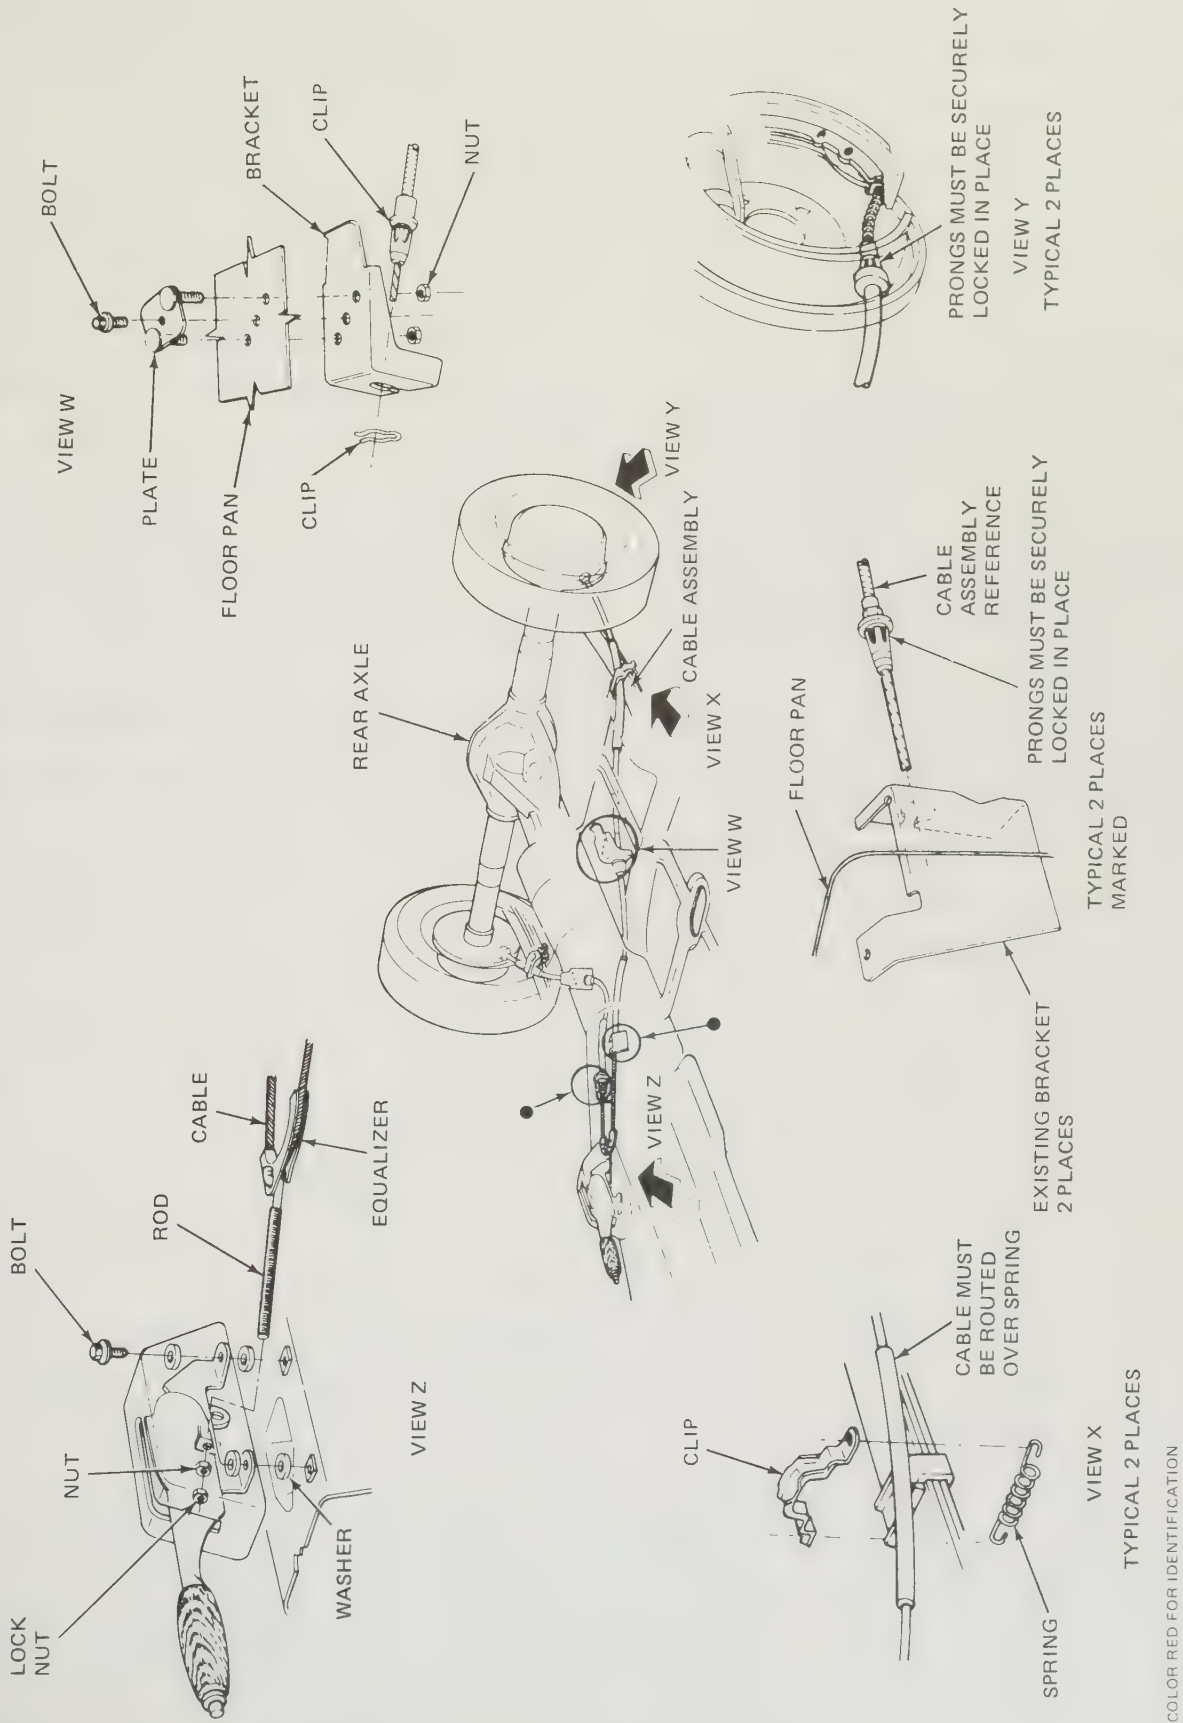

Fig. 9.20. Layout of parking brake and cable (Sec. 21)
- 6 Remove the clips retaining each cable to the top of the rear springs (Fig. 9.20).